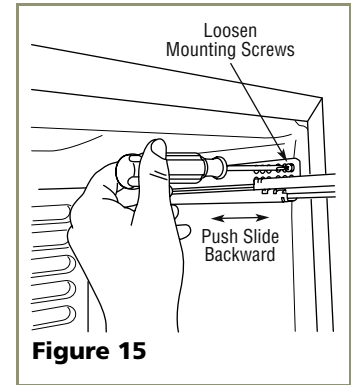

Figure 15
3. Retighten the screws. See **Figure 15**.